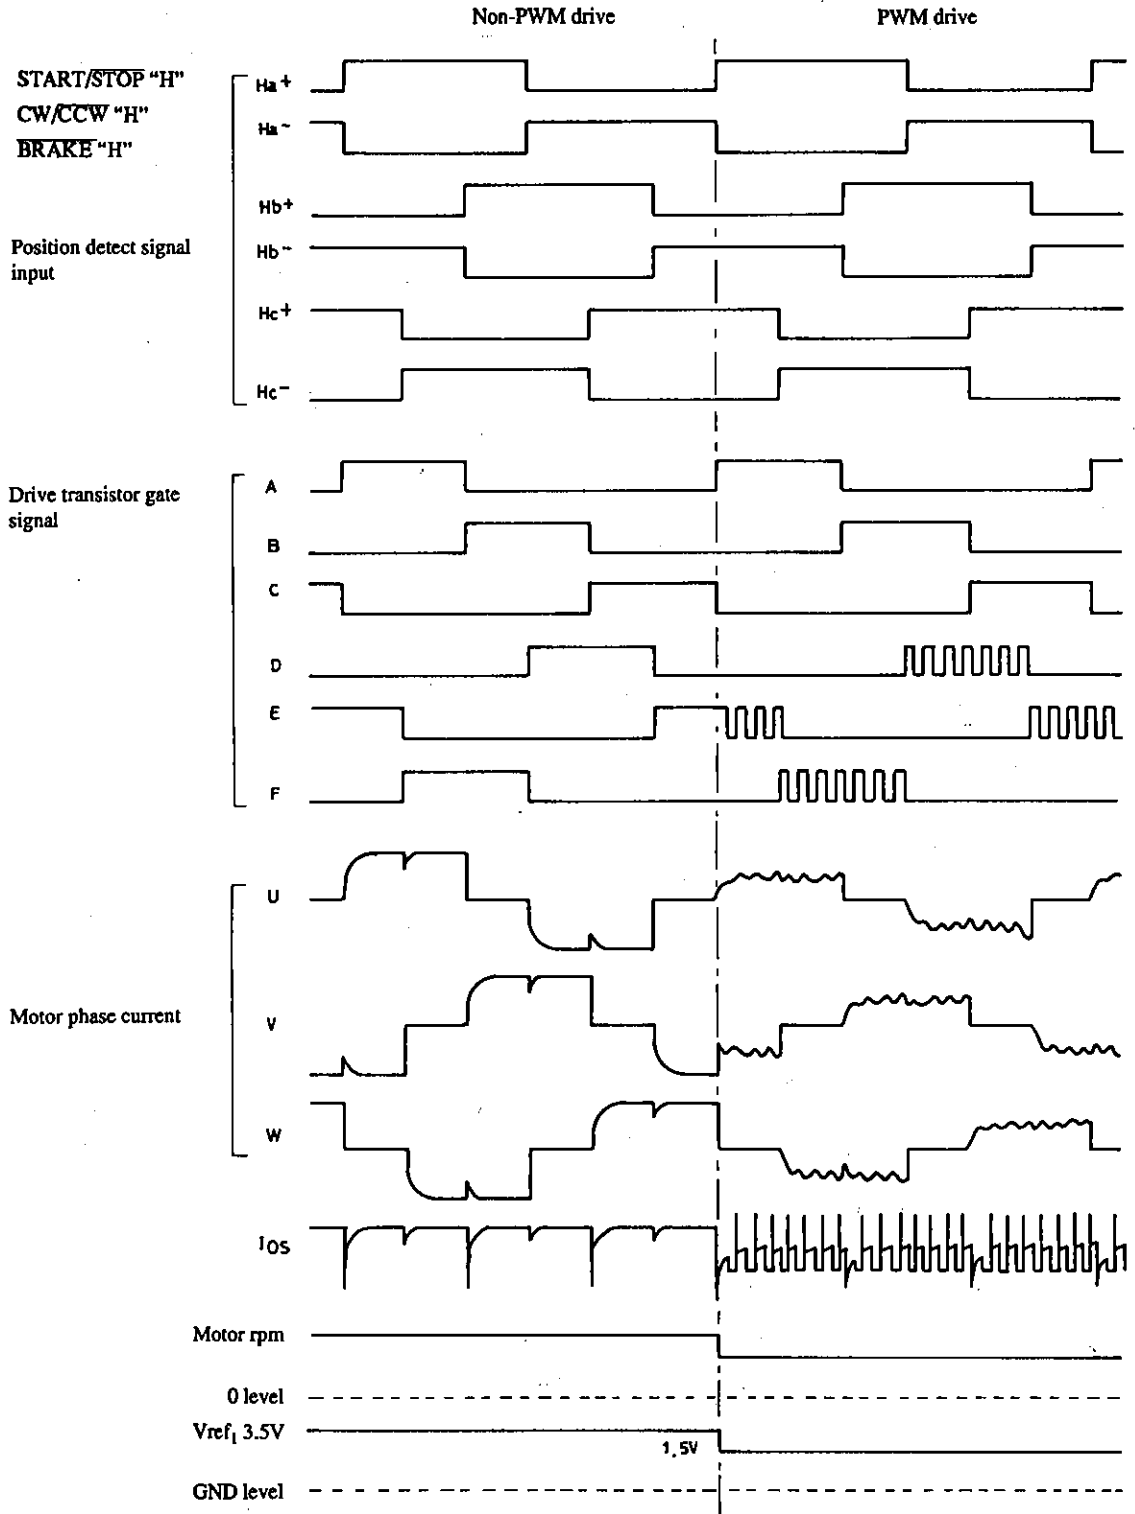

Fig. 3 I/O Timing Chart
The conditions before input of V_{CC1} , with V_{CC2} on, are $\overline{START/STOP}$ pin H level, $\overline{CW/CCW}$ pin H level, \overline{BRAKE} pin H level and V_{ref1} pin (speed control input) H level. The position detect signal at this time, due to the effect of the rotor magnetic field, will be output signals from 1 or 2 devices (of the 3) so that $H_{x+} > H_{x-}$ is input to HIC pins 7-12. The signals input to pins 7-12 are input to the motor controller and converted into signals compatible with 3-phase brushless motor revolution. When V_{CC1} is supplied the charge pump circuit activates, generating V_{CC1} MOSFET gate voltage V_z . This outputs excitation current to the motor phase windings as indicated in the timing chart (Fig. 3), and rotating the motor.
The direction of motor revolution can be selected by setting the input level to H or L. CW is H level and CCW is L level. The CW timing chart is indicated in Fig. 3, and the CCW timing chart in Fig. 5.
Because signal input sensitivity V_H is $\pm 500\text{ mV}$ max, the level of the output signal (open collector) from the Hall IC must be reduced through conversion. A sample of this circuit is shown in Fig. 7. The position detect signal must be compatible with the motor phase winding even in the time chart state shown in Fig. 3, or the motor may not revolve smoothly.